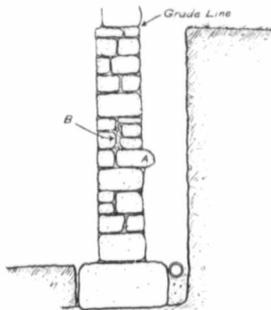

Fig. 7
**T**HE stone wall for a house is made from 14 to 18 inches thick, depending upon the quality of the stone and the latitude where the work is done. The common stone wall is not as strong as a concrete wall of the same thickness. The price of the building materials in a locality is often such that the stone wall is cheaper than one of concrete, and it is therefore quite widely used. In such cases, large flat stones are commonly used for the footing (figure 7). These stones may be laid dry in the trenches, but should be well bedded in the ground. If the earth is such that the stones cannot be
through the wall from face to face. If the stones are small, there is a tendency to make the wall consist in an inside wall and an outside wall with mortar and small stones filled in between to keep up the width as shown at B, Figure 7. This makes a weak wall, as each surface is apt to buckle under a heavy load or in case there is a tendency toward unequal settling. It is, therefore, essential that the stones on the inside and outside surfaces of the wall should lap past each other as much as possible. If it is thought that the wall is being incorrectly laid as just described, it can be easily tested while the mortar is fresh by pushing a long pointed iron rod down into the centre of the wall.
The surface joints of the stone work up to the underpinning should be filled solidly with mortar as the work progresses. The outside surface should be kept smooth as well as the inside in order that it may be easily made waterproof with tar, asphaltum, or mortar. No stones should be allowed to project beyond the surface of the wall as at A, Figure 7.
For house foundations an open joint tile drain called a "weeping drain" should be laid around the wall just outside the footing, as shown in Figure 7. The tile should be laid with a straight edge, having a uniform slope to one corner of the foundation. It should there be connected by tile to some outlet at a still lower level. This will insure a dry wall and cellar, and the proper disposal of any surface water that may tend to collect about the building. Before covering the tile, the joints should be covered on top with a piece of sod or tarred building paper to prevent the dirt clogging the drain. By the time these protectives lose their value the fill above the tile will have become settled and well packed, and will then have no tendency to stop the drain. In filling outside the foundation wall, coarse gravel should be